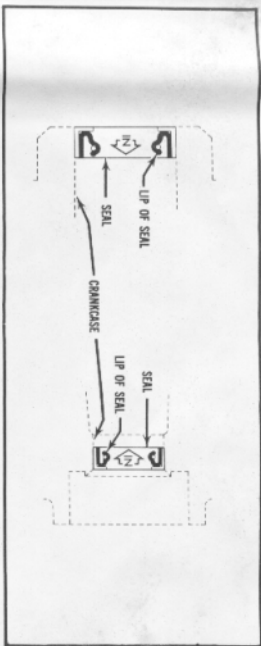

FIGURE 24
4. Use a seal driver of the correct diameter--one which contacts only the outer diameter of the seal--together with an arbor press, to press the new seal into the crankcase. Make sure that the lip of the seal faces inward, as shown in Figure 24.
3. Use a seal driver of the correct diameter--one which contacts only the outer diameter of the seal--together with an arbor press, to press the new seal into the end cover. Make sure that the lip of the seal faces inward, as shown in Figure 24.